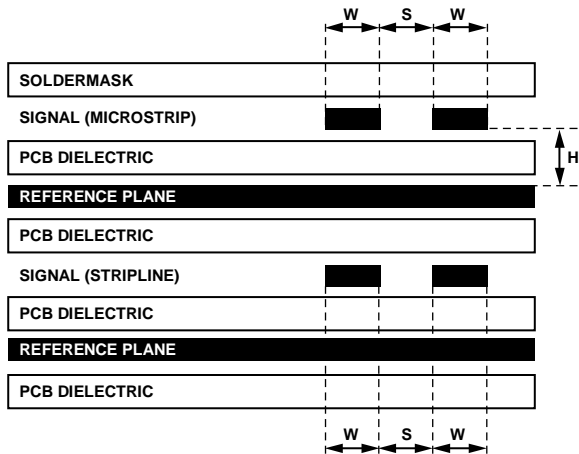

Figure 55. Example of a PCB Cross-Section
The high speed differential inputs and outputs should be routed with $100\ \Omega$ controlled impedance differential transmission lines. The transmission lines, either microstrip or stripline, should be referenced to a solid low impedance reference plane. An example of a PCB cross-section is shown in Figure 55. The trace width (W), differential spacing (S), height above reference plane (H), and dielectric constant of the PCB material determine the characteristic impedance. Adjacent channels should be kept apart by a distance greater than $3W$ to minimize crosstalk.